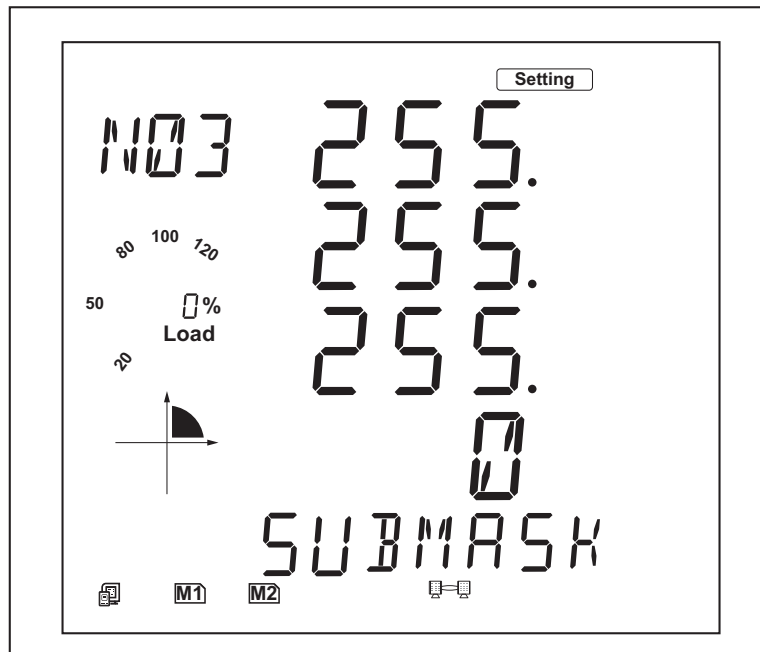

Figure 17: N03: Subnet Mask
8. Press **P** to get to N03: Subnet Mask for Ethernet port 1 (Figure 17 on page 17).